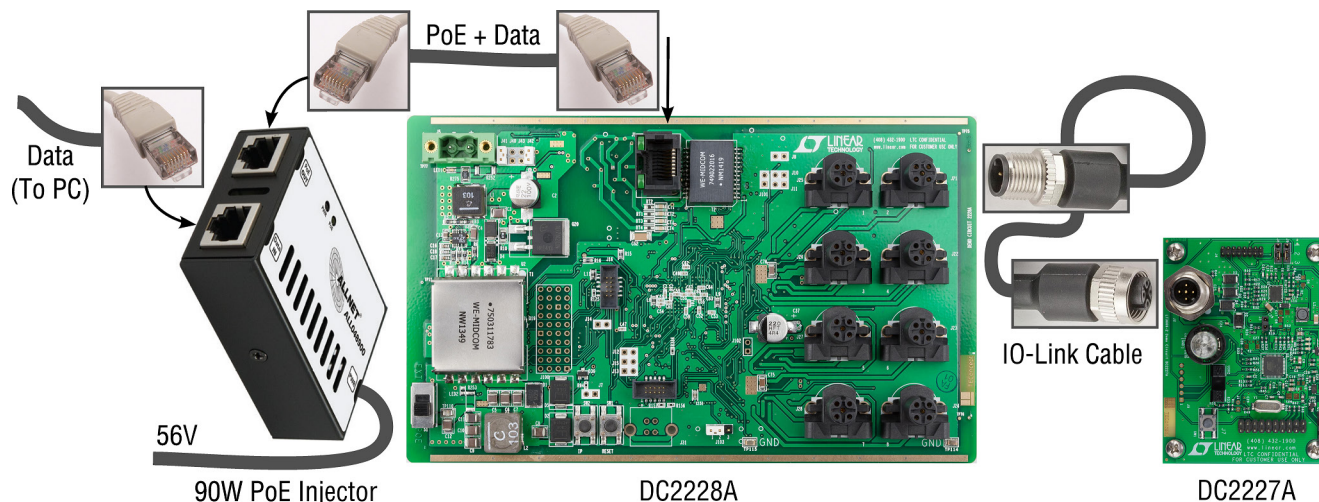

Figure 1. Recommended Set-up for Operating DC2227A in IO-Link Mode
### Set-up Preparation (See Figures 1 and 2)
3. Using a 3-wire IO-Link cable of up to 20m in length with M12 connectors, plug the male terminal to one of the 8-ports of the DC2228A (for example port 2 like in Figure 1) and the female terminal to the DC2227A.
### Operation in IO-Link Mode (See Figures 1 and 2)